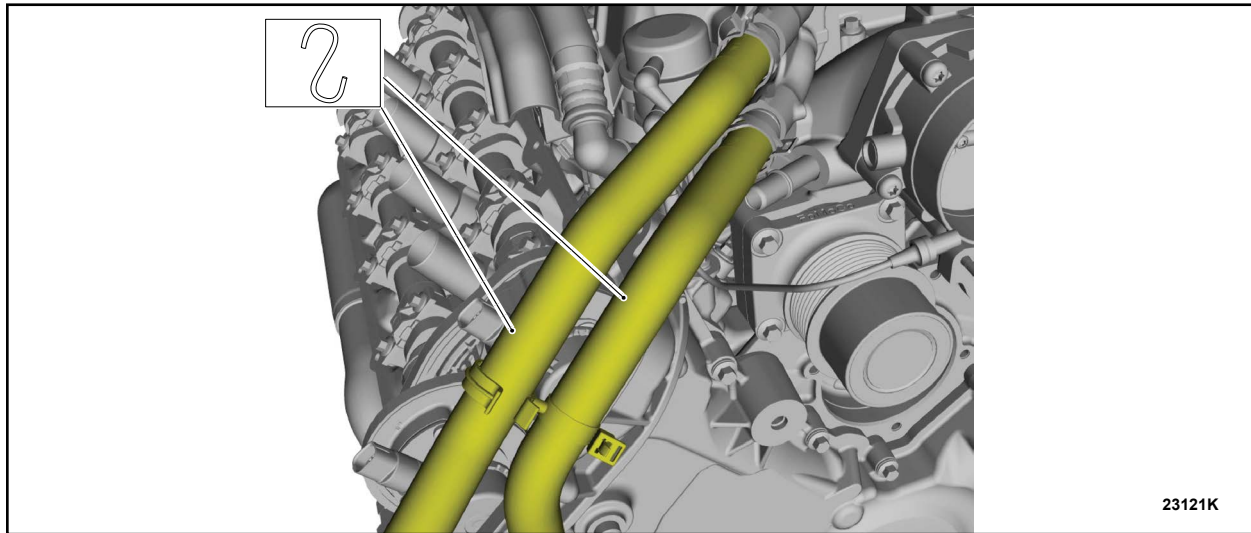

FIGURE 33
15. Secure the coolant hoses aside. See Figure 33.